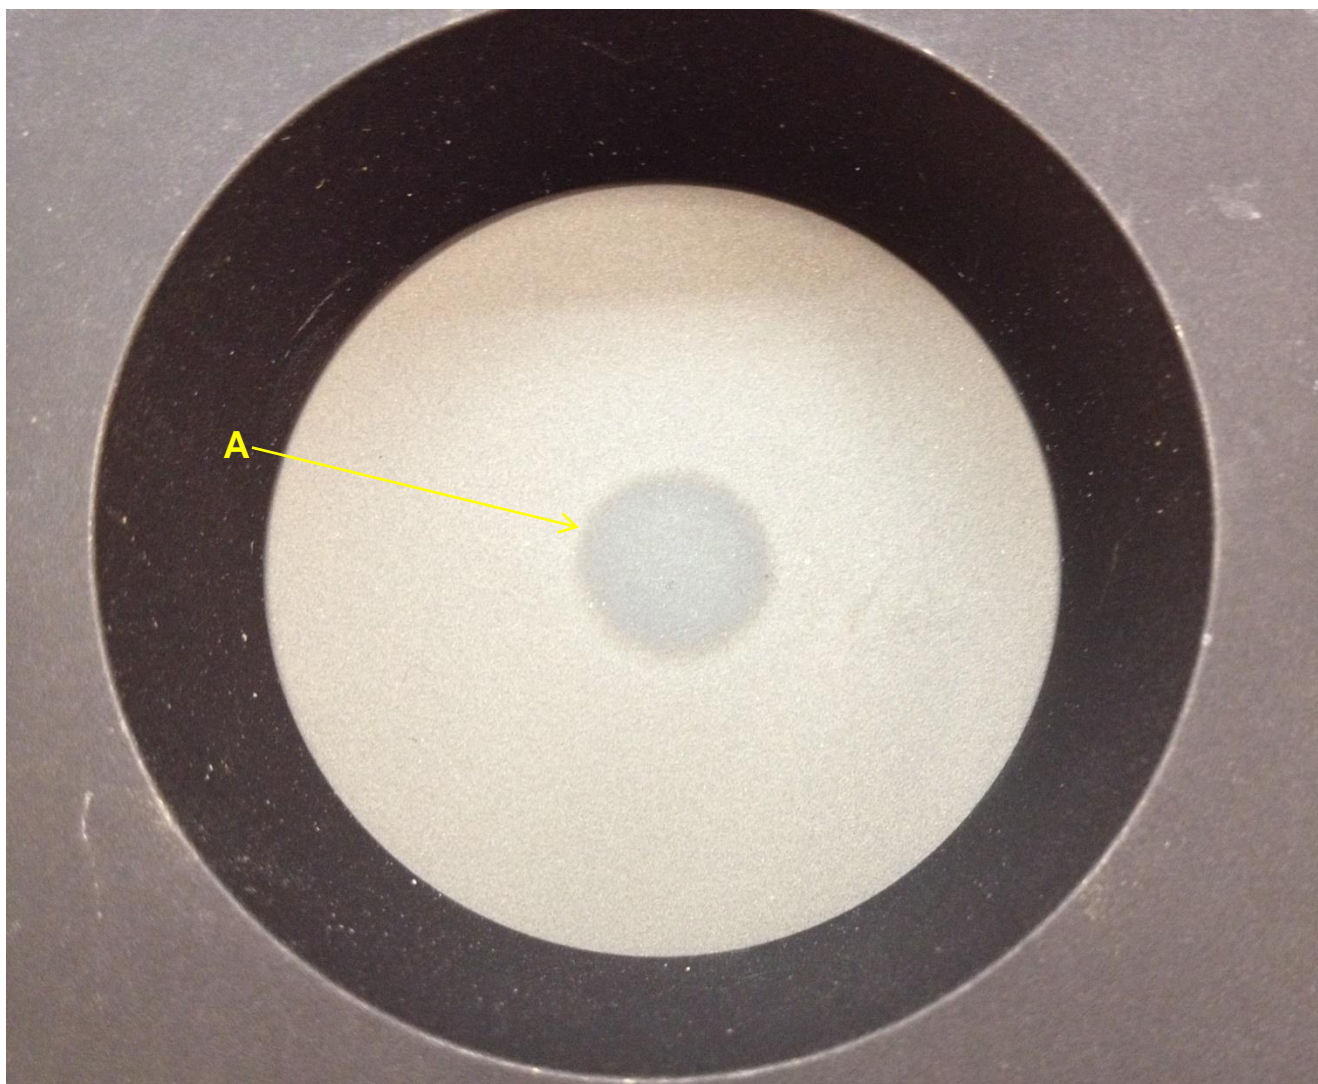

Figure 9: kW Level Power Sensor near Its Damage Threshold
- i. Figure 9: kW Level Power Sensor near Its Damage Threshold